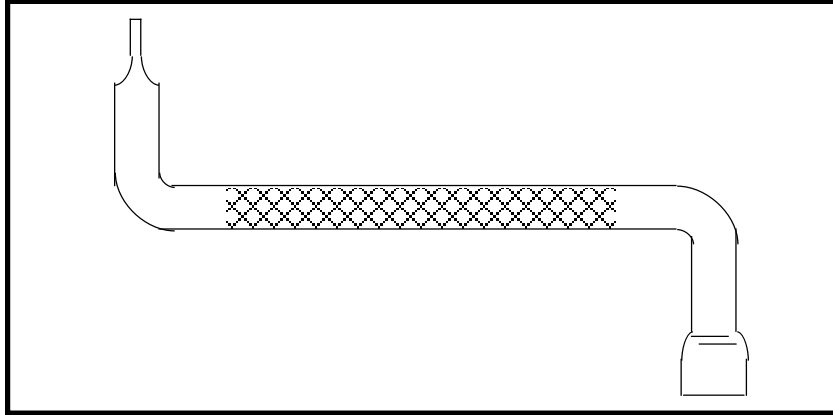

Figure 1
- **Offset Flat Screwdriver.** This is essential for tightening the screws for the circuit breakers and main bus bar. The normal straight screwdriver will not work (see Detail G & G). Available at most hardware stores. See Figure 1.